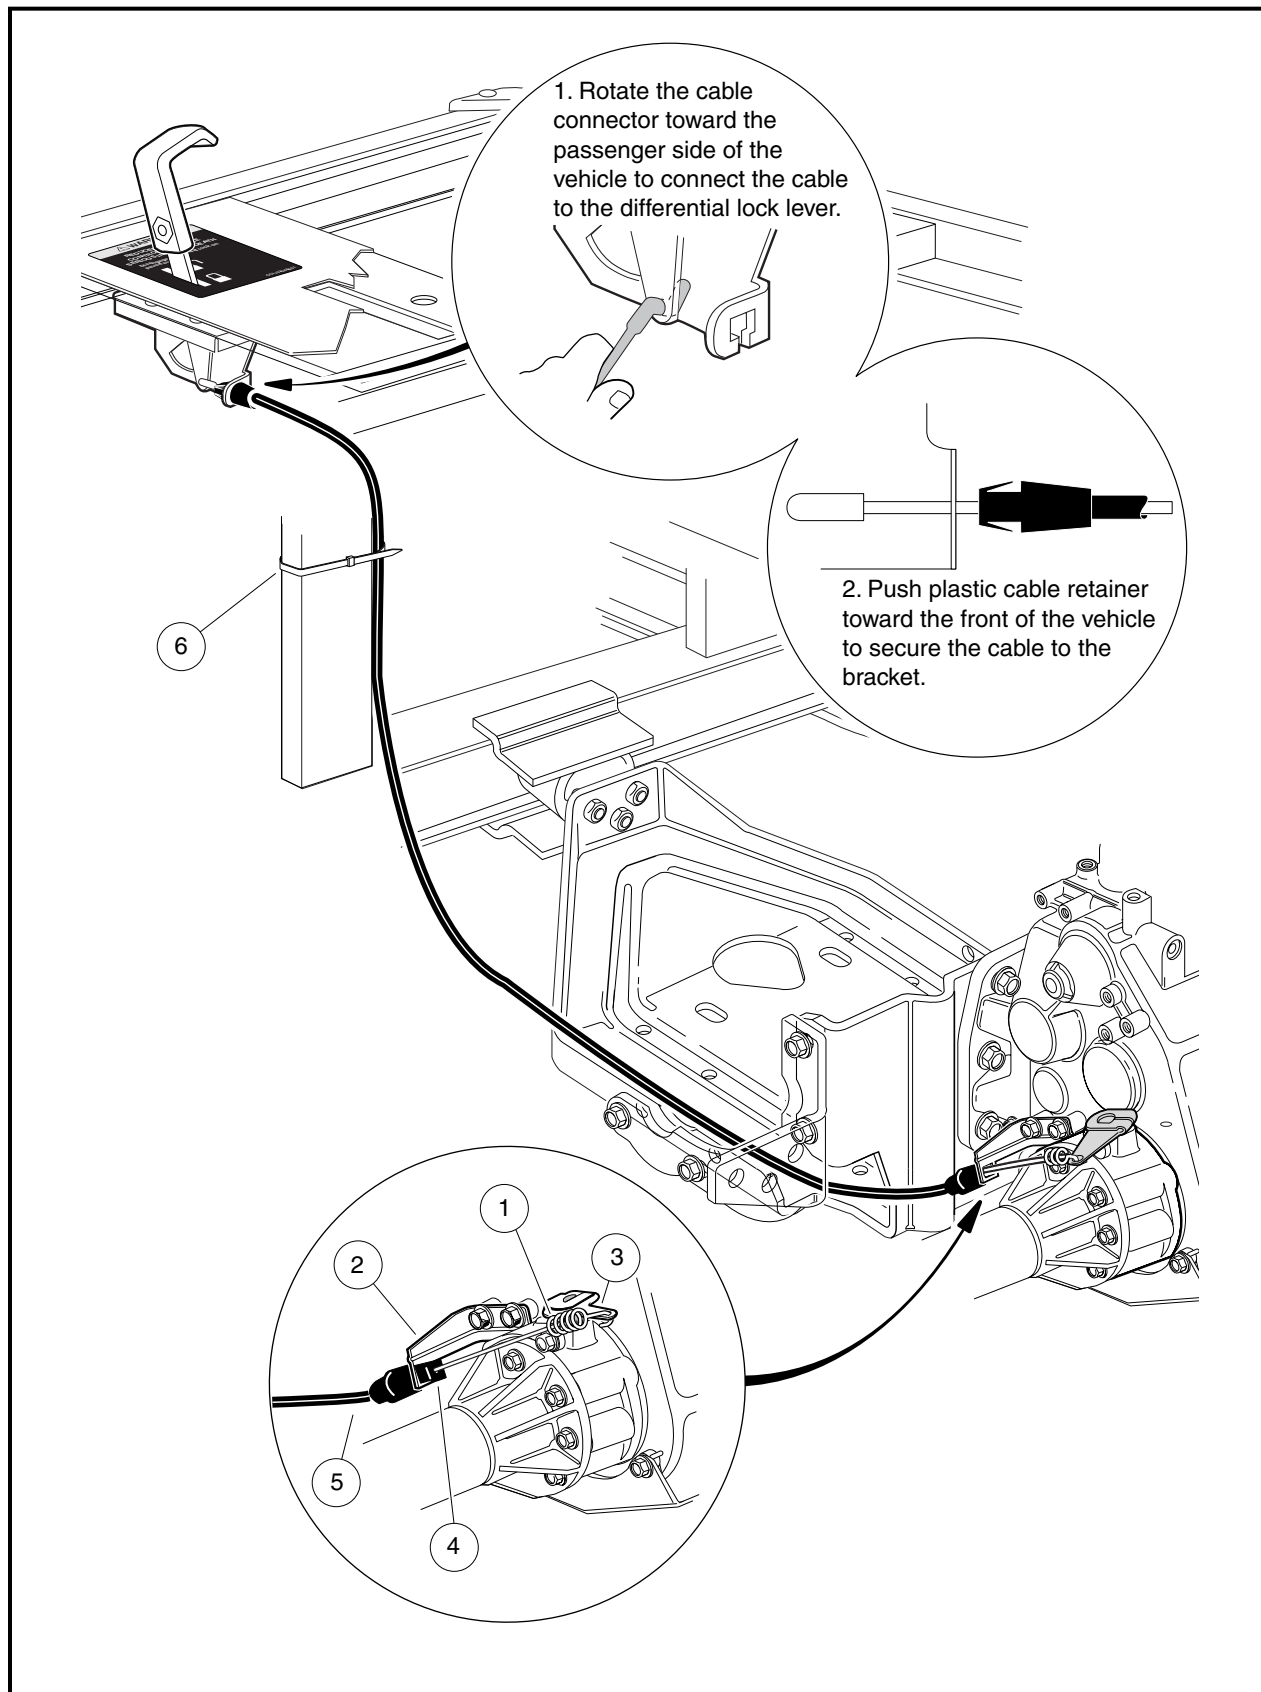

Figure 16-63 Differential Lock Cable Routing
- 34.4. Push the cable sheath toward the front of the vehicle to secure the cable to the bracket (**Figure 16-63, Page 16-28**).
2. Remove wire tie (6) securing the cable to the vertical support (**Figure 16-63, Page 16-28**).
6. Unhook the cable spring (1) from the differential lock arm (3) (**Figure 16-63, Page 16-28**).
7. Use a pair of pliers and apply pressure to the locking tabs of the cable end (4) where it attaches to the cable mounting bracket (2) at the transaxle.
8. Pull cable (5) toward the front of the vehicle to remove the cable from the bracket (2) and vehicle.
1. Route the cable through the engine mounting plate as illustrated (**Figure 16-63, Page 16-28**).
2. Route the cable spring (1) through the cable bracket (2).
3. Connect the differential lock cable spring end (1) to the differential lock arm (3) on the differential lock housing.
4. Push the cable (5) toward the rear of the vehicle in order to secure the cable to the bracket (2).
- 5.5. Secure the cable to the vertical support with a wire tie (6) (**Figure 16-63, Page 16-28**).